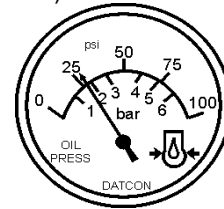

Figure 48. Oil Pressure Gauge
13. The engine oil pressure gauge (Figure 48) will indicate the oil pressure (kg/cm2) of the engine. Under normal operating conditions the oil pressure is between 28 ~71 psi (193 ~490 kPa).